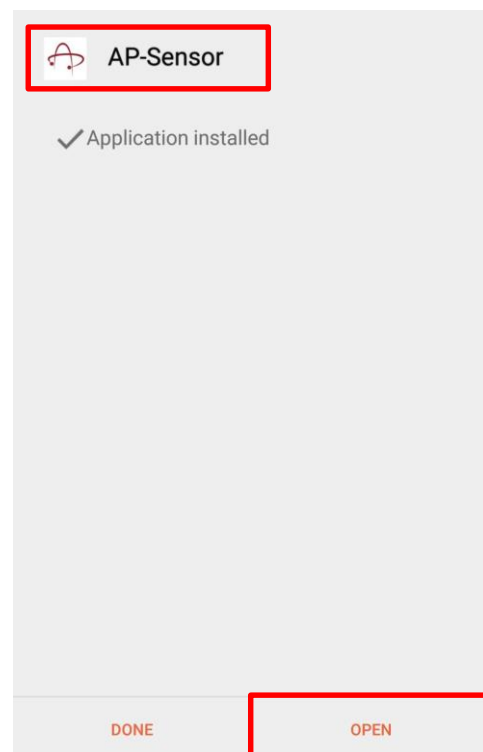

Fig 2.3
3. Open the app after successful installation (Fig 2.3).